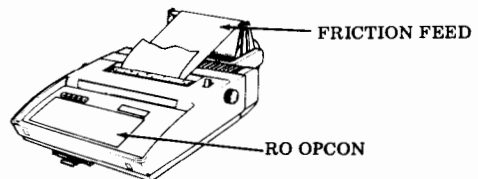

Fig. 2—RO Friction Feed
2.03 Various 43 terminal arrangements are also available without a directly connected telephone with either friction or sprocket feed paper handling as follows (See Fig. 2):
- Receive Only (RO) terminals with either a TDU, a TAU or no TU.